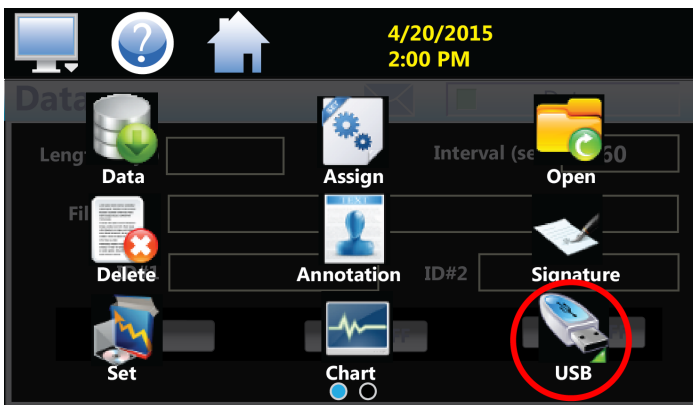

Fig. 77: USB Icon
1. Select HOME - MONITOR - (swipe screen) DATA - USB icons (Fig. 77).